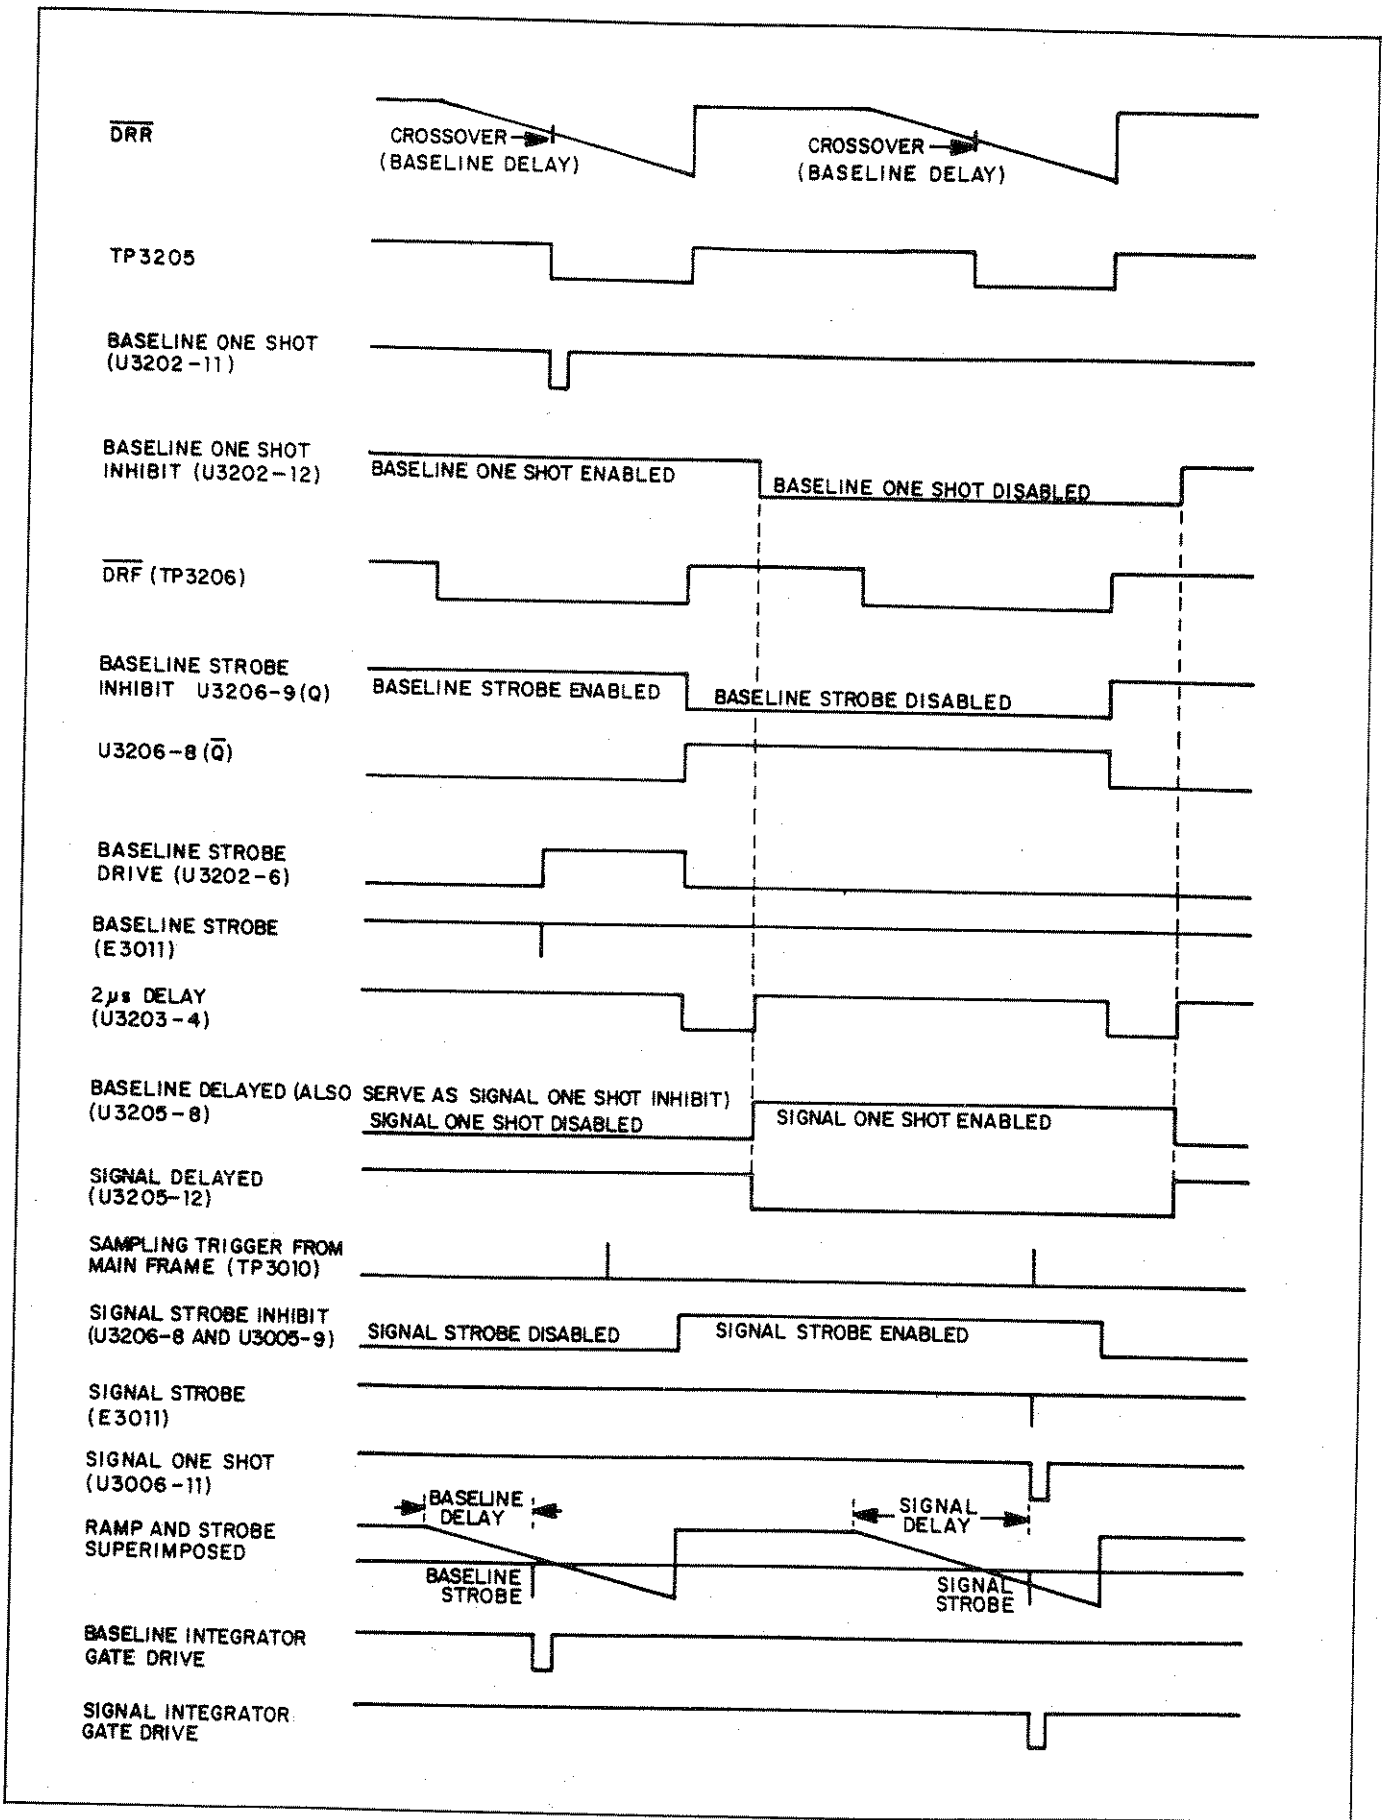

Figure VI-4. MODEL 163 LOGIC TIMING RELATIONSHIPS
6.6C LOGIC CIRCUITS (see Figure VI-4 for timing relationships)